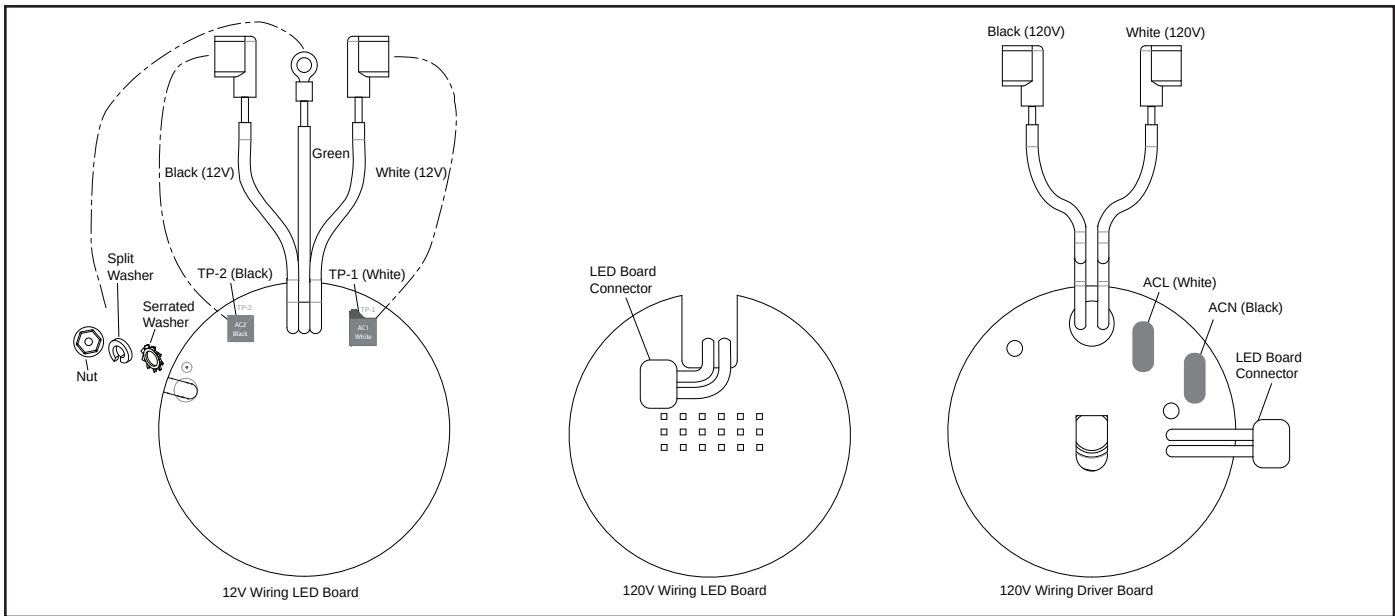

**Figure 7. Small Light Engine (PCB) Replacement and Wiring**
2. Remove two (2) nuts and two (2) washers.
5. Place new light driver into the fixture with the orientation shown in Figure 7.
6. Secure the light driver with one (1) washer and one (1) nut on the right side of the light driver. Torque to 12 in-lbs.
2. Remove two (2) screws and six (6) washers.
6. Place new LED board into the heat sink with the orientation shown in Figure 7.
7. Secure the LED board with two (2) screws and two (2) washers.
6. Remove driver board and place new light driver board into the fixture with the orientation shown in Figure 7.
12. Place new LED board into the heat sink with the orientation shown in Figure 7.
13. Secure the LED board with two (2) screws and six (6) washers.